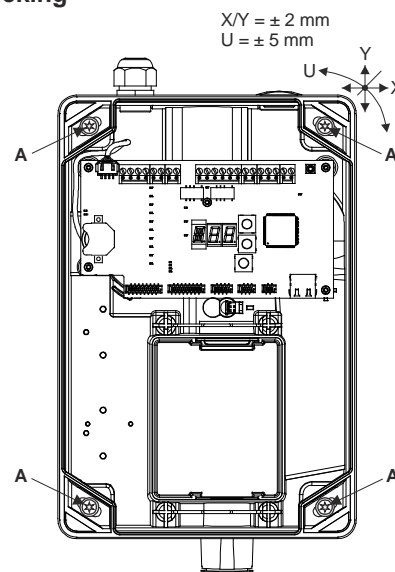

Fig. 2 Open, closing and securing the detector housing
- To actuate the **rotary snap locks**, **press** them **firmly** with the screwdriver towards the housing base and then **turn** through 90°. The position of the lock slit shows the current status (see **Fig. 2**):